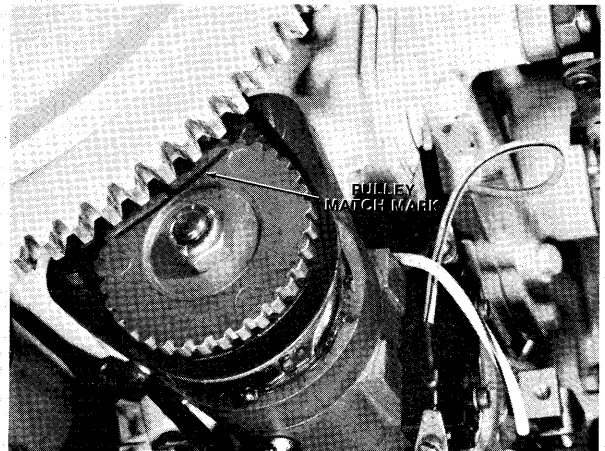

Figure 6—Aligning Distributor Pulley Match Mark With Flywheel
- The 36° mark on flywheel and the index line (I) on the timing pointer must be in alignment with each other; if not, shift timing pointer by loosening the two (2) screws securing pointer to powerhead and align these two (2) points.
- Turn flywheel to align 0° mark on flywheel with pointer index line (I). Turn distributor pulley to match the index mark on distributor pulley with outside diameter of flywheel. See figure 6.